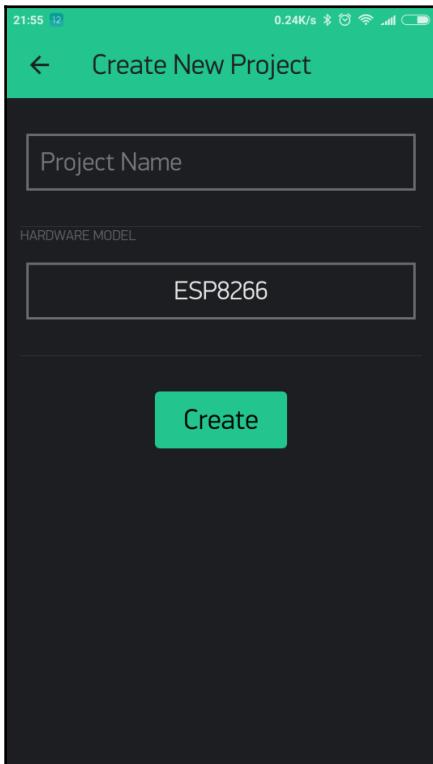

Figure 2.22: Project settings
4. Type a name for your project in the **Project Name** box. Then, choose the ARDUINO UNO from the **HARDWARE MODEL** list and tap the **Create** button to create the project (*Figure 2.22*):